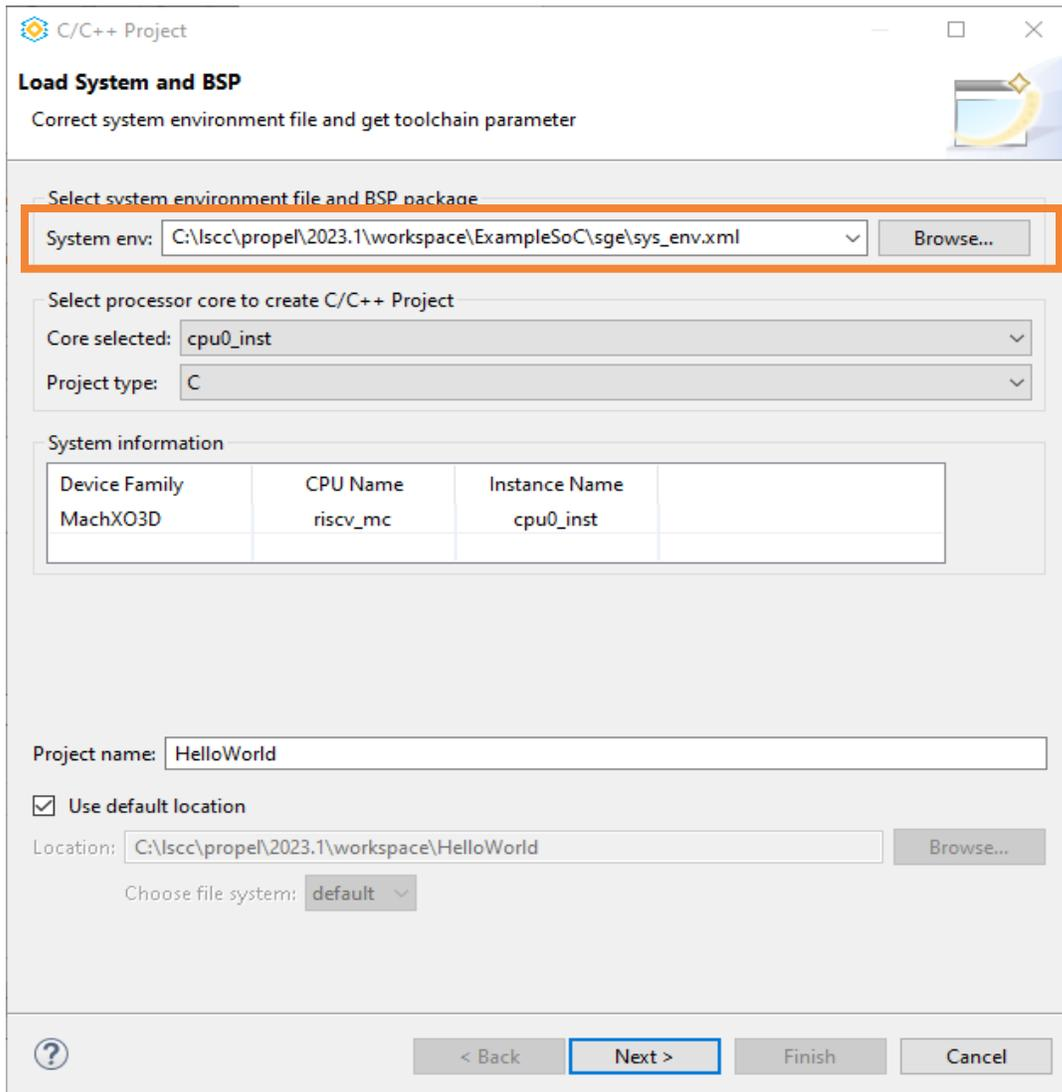

Figure 4.9. Load System and BSP Page
The C/C++ Project wizard opens with the **Load System and BSP** page (Figure 4.9).
4. Select the system environment file just generated (Figure 4.9).
5. Enter the project name *HelloWorld* (Figure 4.9). Click **Next**. Then click **Finish**.